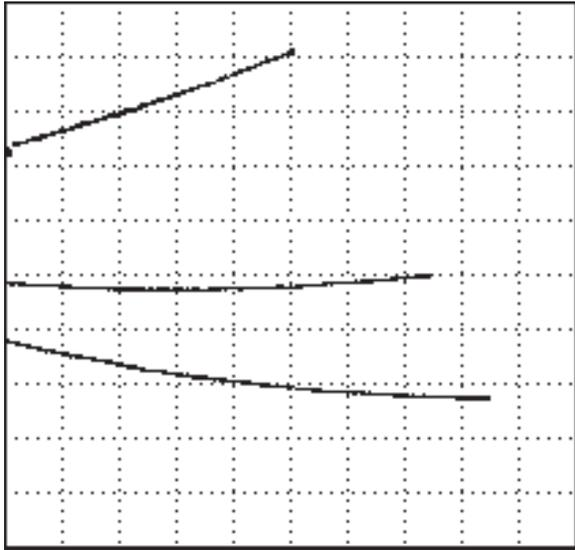

Figure 4-5. Conductivity Sorting
8. Place the probe on the MAG, 7075-T6 and 7075-0 samples. The display should look similar to **Figure 4-5**.